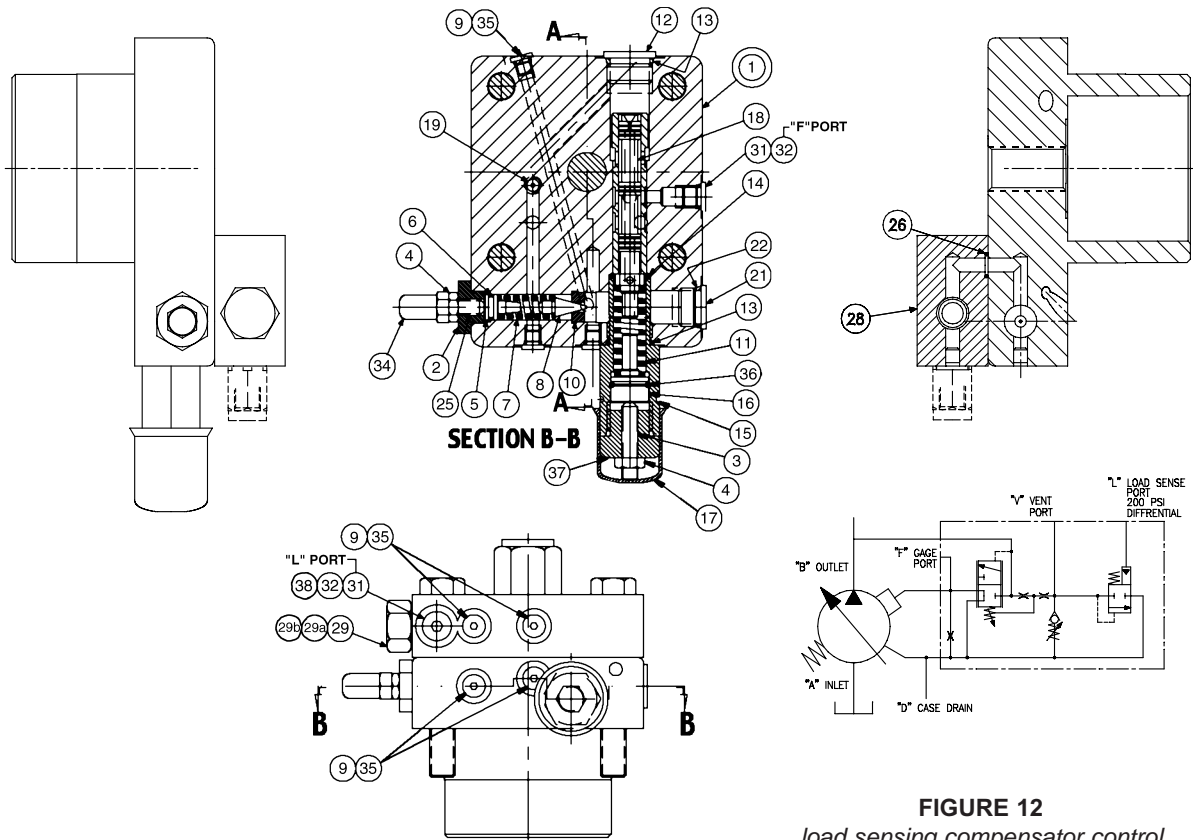

FIGURE 12
PARTS LIST FOR FIG. 12
1. See Figure 12 Back off max. volume screw or handwheel to full displacement. Remove max. volume assembly.
3. Remove isolation valve (29) from block (28). Remove plug (15) and attached parts. Remove spring (11) and spool (18).
4. Remove adjusting plug (2) and attached parts. Remove seal piston (5). Note: a 10-24 screw may be used to assist in pulling the piston. Remove spring (7) and cone (8).
5. Do not remove sleeve in body (1). Sleeve is pressed into cap and finished to size. If sleeve or cap is worn, replace the cap-sleeve assembly (1).
6. Examine seat (10) for wear. Do not remove unless damaged.
Ref. Figure 12